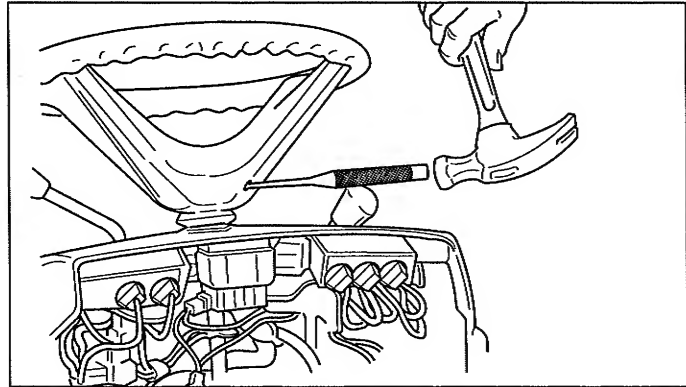

Figure 44. Steering Wheel Removal
1. Use a suitable punch to remove the roll pin at the base of the steering wheel (see Figure 44).